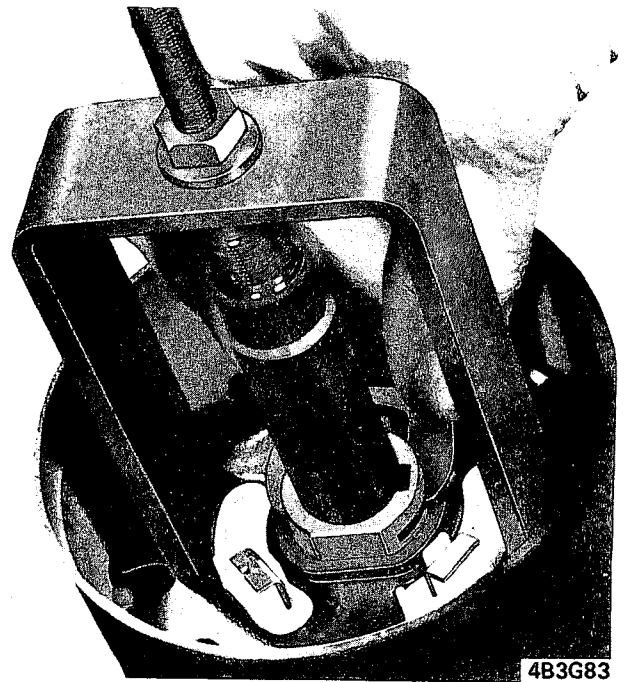

Figure 3G-130 Installing "C" Ring
25. Use J-23063 tool and install race, spring, carrier, shaft lock and "C" ring. Locate "C" ring to lock shaft as shown in Figure 3G-130, with the wider leg of the "C" ring on the keyway side of the yoke. Install "C" ring retainer with single tab opposite small lobe on carrier. Snap retainer over "C" ring and install bumper.